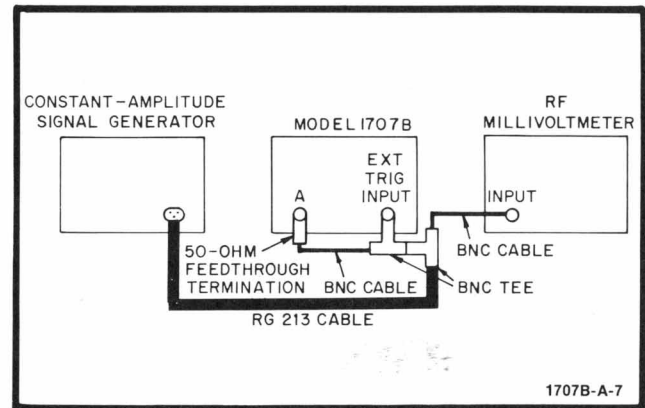

Figure 5-13. Delayed Triggering Test Setup
- Connect instruments as shown in figure 5-13.